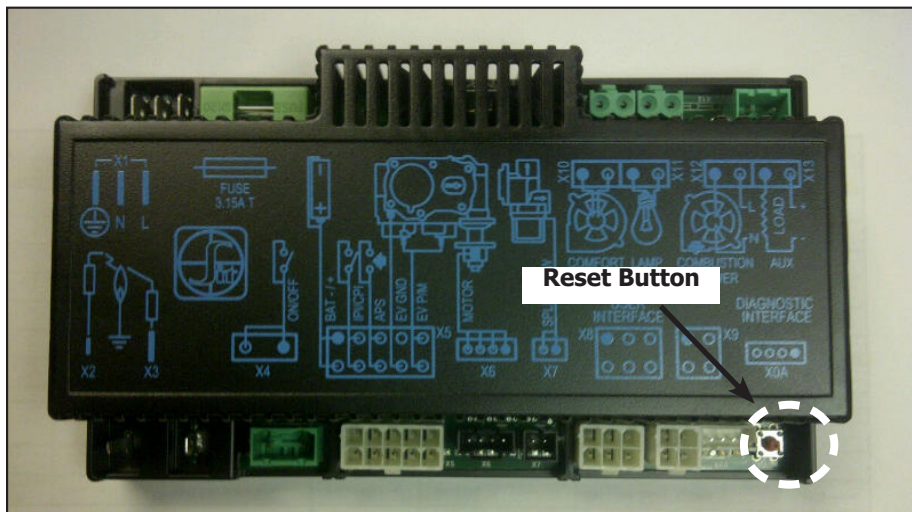
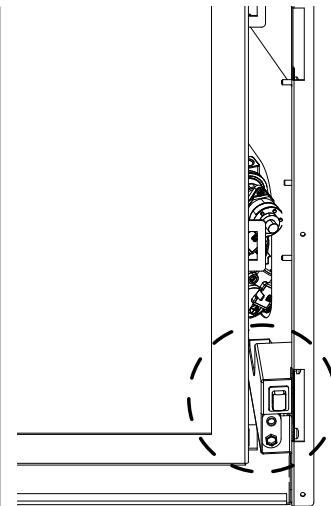

Figure 6: Integrated Fireplace Controller
Figure 7: Remote Reset button
The Proflame 2 IFC (Figure 6) connects directly to the gas valve, stepper motor, pilot, convection fan, and accent lights with wiring harnesses. The IFC is mainly powered by 120 VAC but can also run off a battery backup four (4) AA type batteries for shorter periods of time. The IFC accepts commands via radio frequency from the Transmitter to operate the appliance in accordance with the particular Proflame 2 system configuration. The IFC has a red reset button at the front right corner that is used to synchronize the Transmitter when using the for the first time, or after the batteries have been replaced. There is also a remote reset button located on the lower right side cabinet (Figure 7)
Install the four (4) AA batteries into the IFC battery holder. Note the polarity of the battery and insert into the battery bay as indicated on the body of the battery holder. Press and release the reset button (see Figure 7).